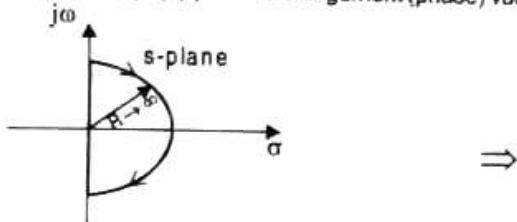
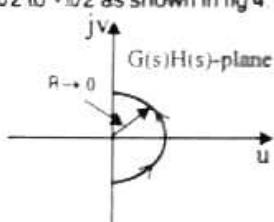

Fig 4.14.4 : Section C_1 in s-plane
Fig 4.14.5 : Mapping of section C_1 in $G(s)H(s)$ -plane
From the equations (4) and (5) we can say that section C_1 in s-plane (fig 4.14.4.) is mapped as circular arc of zero radius around origin in $G(s)H(s)$ -plane with argument (phase) varying from $-\pi/2$ to $+\pi/2$ as shown in fig 4.14.5